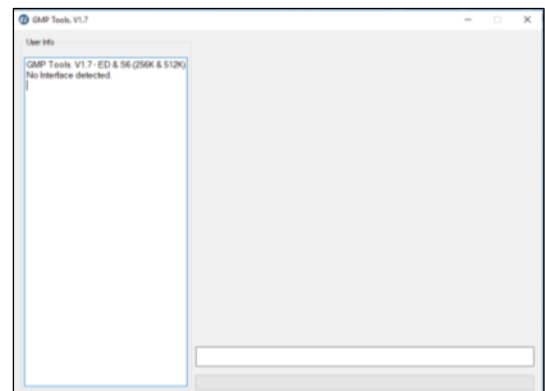

Fig. 2.7
- The GMPTools program icon will be displayed on the desktop. To run the program, double click on the icon and the program will open (Fig. 2.7).